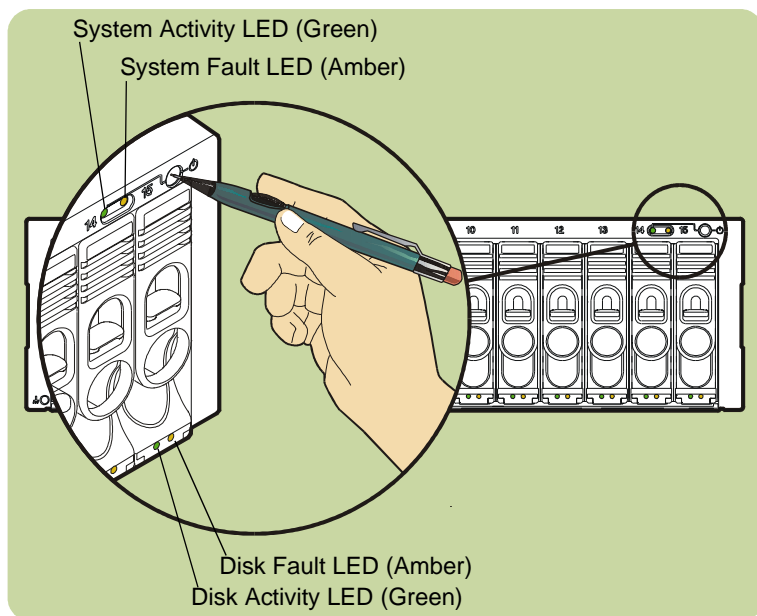

Fig. 42. Powering-on the array
1. Press in the power/standby switch with the retracted tip of a pen or pencil to power-on the array (see Fig. 42). Allow 2 minutes for the disk drives and controllers to complete their self-tests.